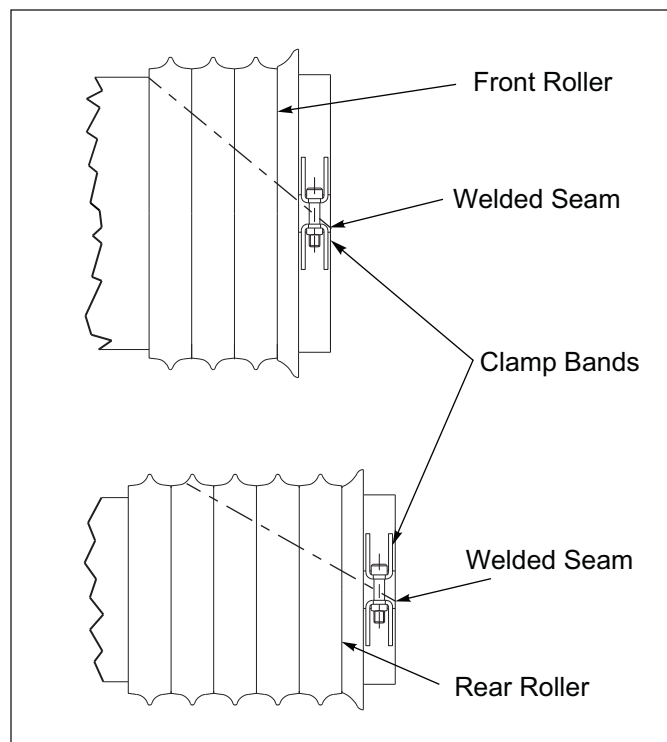

Figure 5-5: Roller Adjustment
2. Position the Clamp Band Socket Head Bolt (Clamp Band open section) over the weld seam on the Roller Drum. **See Figure 5-5.**